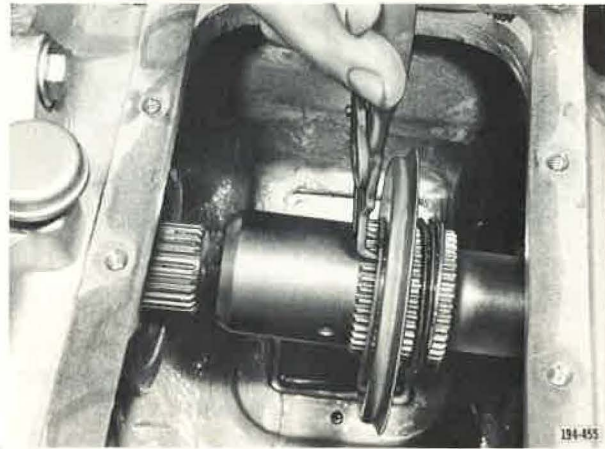

Figure 31. Installing Oil Slinger Retaining Front Snap Ring
13. While advancing countershaft, install oil slinger retaining spring on shaft. With flared lip of slinger toward the rear, install slinger on countershaft splines. Compress retaining spring with slinger and install slinger front snap ring in groove, provided to retain slinger. See Figure 31. Where power-take-off gear is incorporated, position gear on countershaft splines, then install gear front snap ring in groove provided in shaft.